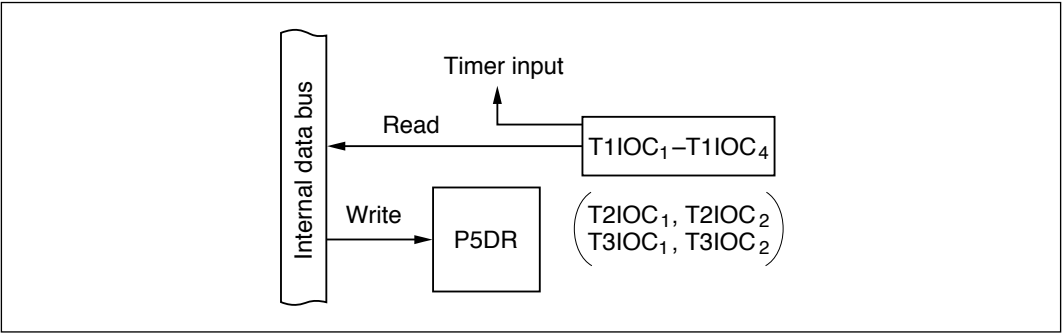

Figure 9-33 Input Capture Combined with General-Purpose Input (Modes 1 to 7)
(5) Timer Input Combined with General-Purpose Input (Modes 1 to 7): Figure 9-33 shows a block diagram illustrating the input capture function when combined with general-purpose input. Table 9-25 indicates register read/write data. An input capture pin can also be read as an input port, to monitor the timer input level at T1IOC₁ to T1IOC₄, T2IOC₁, T2IOC₂, T3IOC₁, or T3IOC₂.